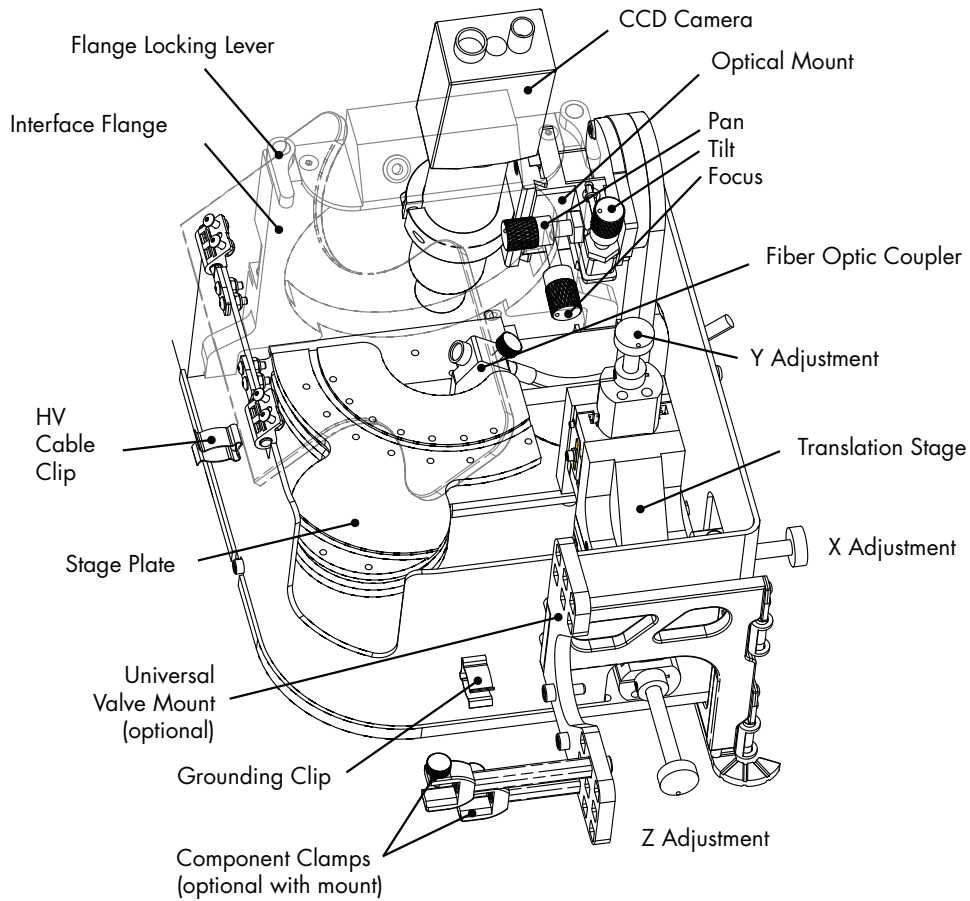

Figure 3.1A User-side view of PicoView®
Figures 3.1A and B illustrate user-side and instrument-side views of PicoView®, showing the general layout of the components. The translation stage and stage plate comprise the PicoView hardware used for mounting and aligning tips with respect to the inlet on the mass spectrometer.
The imaging system allows the user to quickly and efficiently optimize the electrospray conditions by providing direct observation of the character of the spray. The system includes a high-resolution CCD camera and an objective lens. Alignment of the imaging system is accomplished using the Focus, Tilt, and Pan adjustment screws of the optical stage (refer to Figure 3.1A).
4. Screw the (male) threaded end of the lens onto the mating (female) thread on the instrument-side end of the optical tube. Turn the lens counterclockwise until it is finger-tight (see Figure 3.1A).